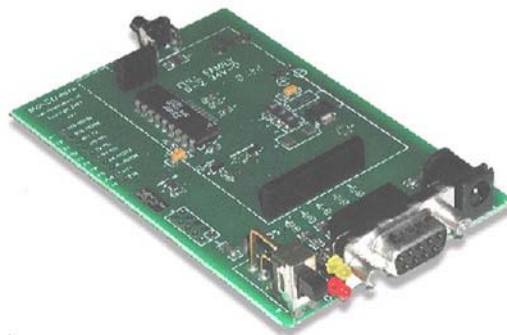

Figure 1 – MaxStream PC Interface Board
- e. Refer to figure 1 for completed assembly.